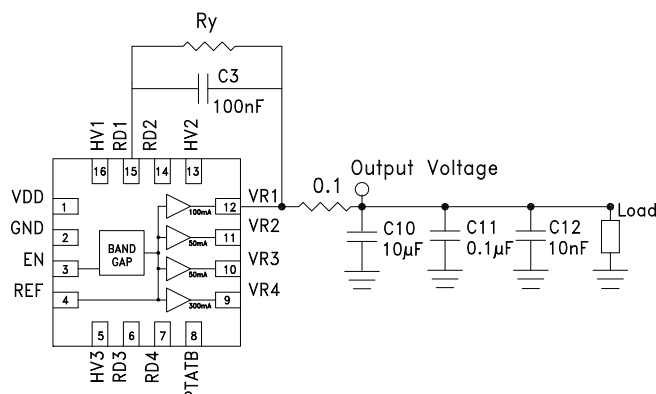

Figure 13. Recommended HMC1060LP3E configuration for supplying output voltage values less than default. [1]
The outputs of the HMC1060LP3E are configured to supply voltages less than the default values, down to 1.8 V minimum, by connecting a resistance (R_y in Figure 13) between pins VR x and RD x (where $x = 1, 2, 3, 4$). Figure 13 shows an example of configuring VR1 output. Other outputs are configured in exactly the same way (ie. R_y is added between VR2 & RD2, VR3 & RD3 and between VR4 & RD4).
- To set VR1 = VR2 = VR3 = 1.8 V in with PTAT Mode disabled, external resistance Ry = 21 kΩ shown in Figure 13 is required.